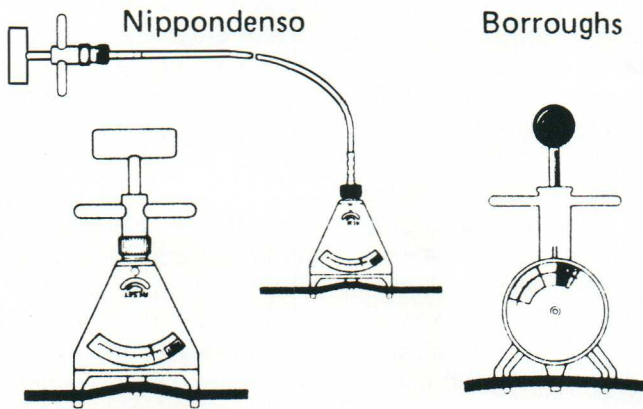

Figure 241-3
- Using a belt tension gauge, Figure 241-3, check the drive belt tension.